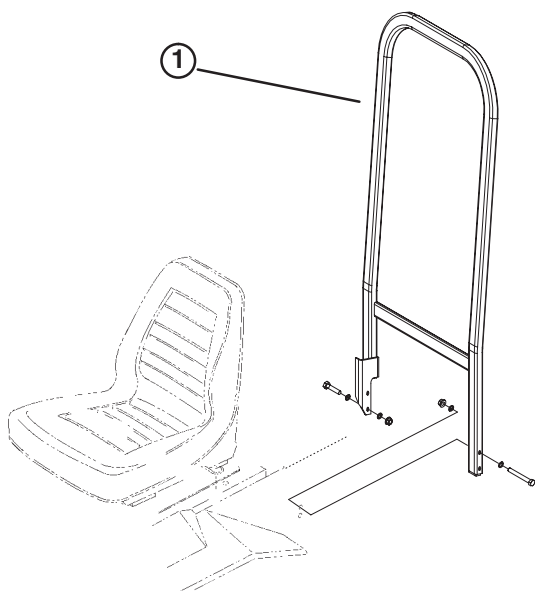

Figure 11
3. Secure each leg of ROPS to machine frame with a capscrew, (2) flatwashers and a flange lock nut previously removed (Fig. 11). Shorter capscrew used to secure right leg of ROPS frame. Capscrew heads to be positioned outward. Torque fasteners to 50-60 ft-lbs.